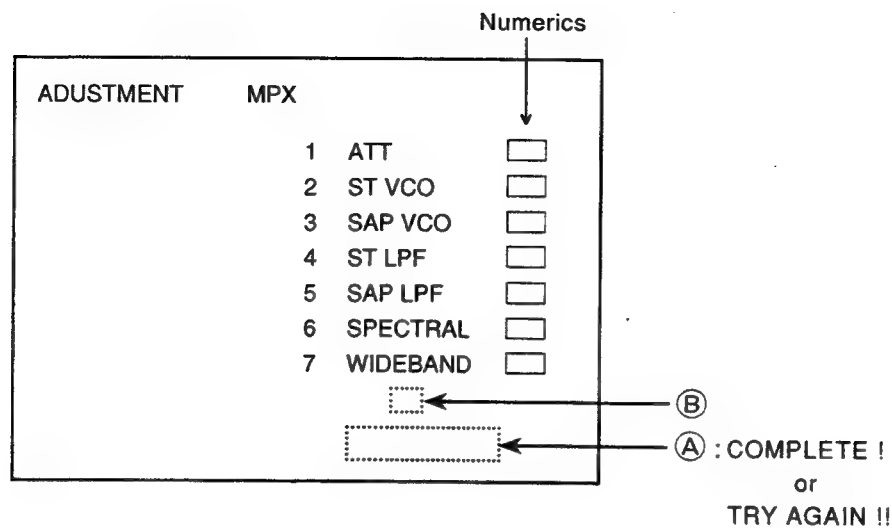

Fig. 9-17 Display of ADJUSTMENT MPX mode screen
| 2        | SAP VCO         | Ⓝ            | Ⓝ     | Remote control unit | <ul style="list-style-type: none"><li>● Connect the Q4806 base to GND and input the 78.67 kHz ; 147 mVrms signal to TP-MPX(TP4902).</li><li>● Press the numeric key [3] of the remote control unit.</li><li>● Wait until "COMPLETE!" is displayed at part ④ of the screen (see Fig. 9-17).</li><li>● If "TRY AGAIN!!" is displayed, adjust again using the following method.<ol style="list-style-type: none"><li>1. Press the VOL <math>\boxplus</math> and <math>\boxminus</math> keys and adjust so that the value at part ⑥ of the screen (see Fig. 9-17) becomes 21, 25, 29 or 2D.</li><li>2. Press the VOL <math>\boxminus</math> key slowly once at a time until the value at part ⑥ of the screen changes from 21, 25, 29 or 2D to a different value.</li><li>3. Press the VOL <math>\boxplus</math> key slowly once at a time while counting it until the value at part ⑥ of the screen changes from 21, 25, 29 or 2D to a different value.</li><li>4. Press the VOL <math>\boxminus</math> for half the number of times counted.</li><li>5. If the counted number is odd, subtract 1 from it and press the VOL <math>\boxminus</math> key for half of the resultant number.</li></ol></li></ul> |
| 3        | STEREO LPF adjustment                                    | Ⓝ            | Ⓝ     | Remote control unit | <ul style="list-style-type: none"><li>● Connect the Q4806 base to GND and input the 9.4 kHz ; 600 mVrms signal to TP-MPX(TP4902).</li><li>● Press the numeric key [4] of the remote control unit.</li><li>● Wait until "COMPLETE!" is displayed at part ④ of the screen (see Fig. 9-17).</li><li>● If "TRY AGAIN!!" is displayed, adjust again using the following method.<ol style="list-style-type: none"><li>1. Press the VOL <math>\boxplus</math> and <math>\boxminus</math> keys and adjust so that the value at part ⑥ of the screen (see Fig. 9-17) becomes 3X.</li><li>2. Press the VOL <math>\boxminus</math> key slowly once at a time until the value at part ⑥ of the screen changes from 3X to a different value.</li><li>3. Press the VOL <math>\boxplus</math> key slowly once at a time while counting it until the value at part ⑥ of the screen changes from 3X to a different value.</li><li>4. Press the VOL <math>\boxminus</math> for half the number of times counted.</li><li>5. If the counted number is odd, subtract 1 from it and press the VOL <math>\boxminus</math> key for half of the resultant number.</li></ol></li></ul>  |
| 4        | SAP LPF adjustment                                       | Ⓝ            | Ⓝ     | Remote control unit | <ul style="list-style-type: none"><li>● Connect the Q4806 base to GND and input the 88 kHz ; 120 mVrms signal to TP-MPX(TP4902).</li><li>● Press the numeric key [5] of the remote control unit.</li><li>● Wait until "COMPLETE!" is displayed at part ④ of the screen (see Fig. 9-17).</li><li>● If "TRY AGAIN!!" is displayed, adjust again using the following method.<ol style="list-style-type: none"><li>1. Press the VOL <math>\boxplus</math> and <math>\boxminus</math> keys and adjust so that the value at part ⑥ of the screen (see Fig. 9-17) becomes X1, X3, X5 or X7.</li><li>2. Press the VOL <math>\boxminus</math> key slowly once at a time until the value at part ⑥ of the screen changes from X1, X3, X5 or X7 to a different value.</li><li>3. Press the VOL <math>\boxplus</math> key slowly once at a time while counting it until the value at part ⑥ of the screen changes from X1, X3, X5 or X7 to a different value.</li><li>4. Press the VOL <math>\boxminus</math> for half the number of times counted.</li><li>5. If the counted number is odd, subtract 1 from it and press the VOL <math>\boxminus</math> key for half of the resultant number.</li></ol></li></ul> |